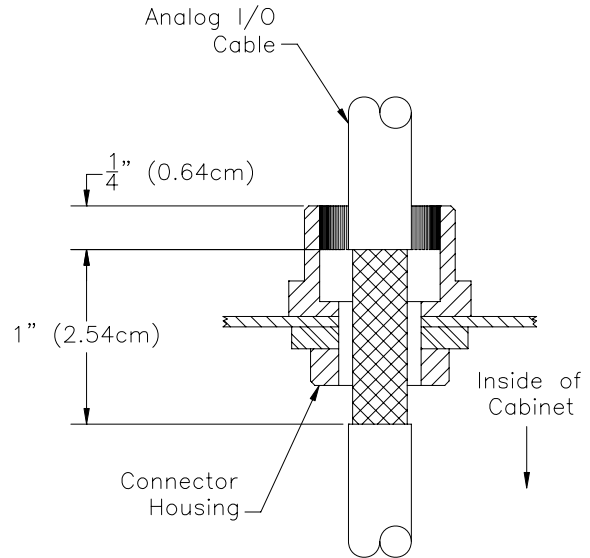

Figure 7: I/O Cable Stripping
2. Route the desired length of I/O cable through the connector housing and mark 1" span of cable that passes through connector housing to be stripped to braid (see Figure 7).